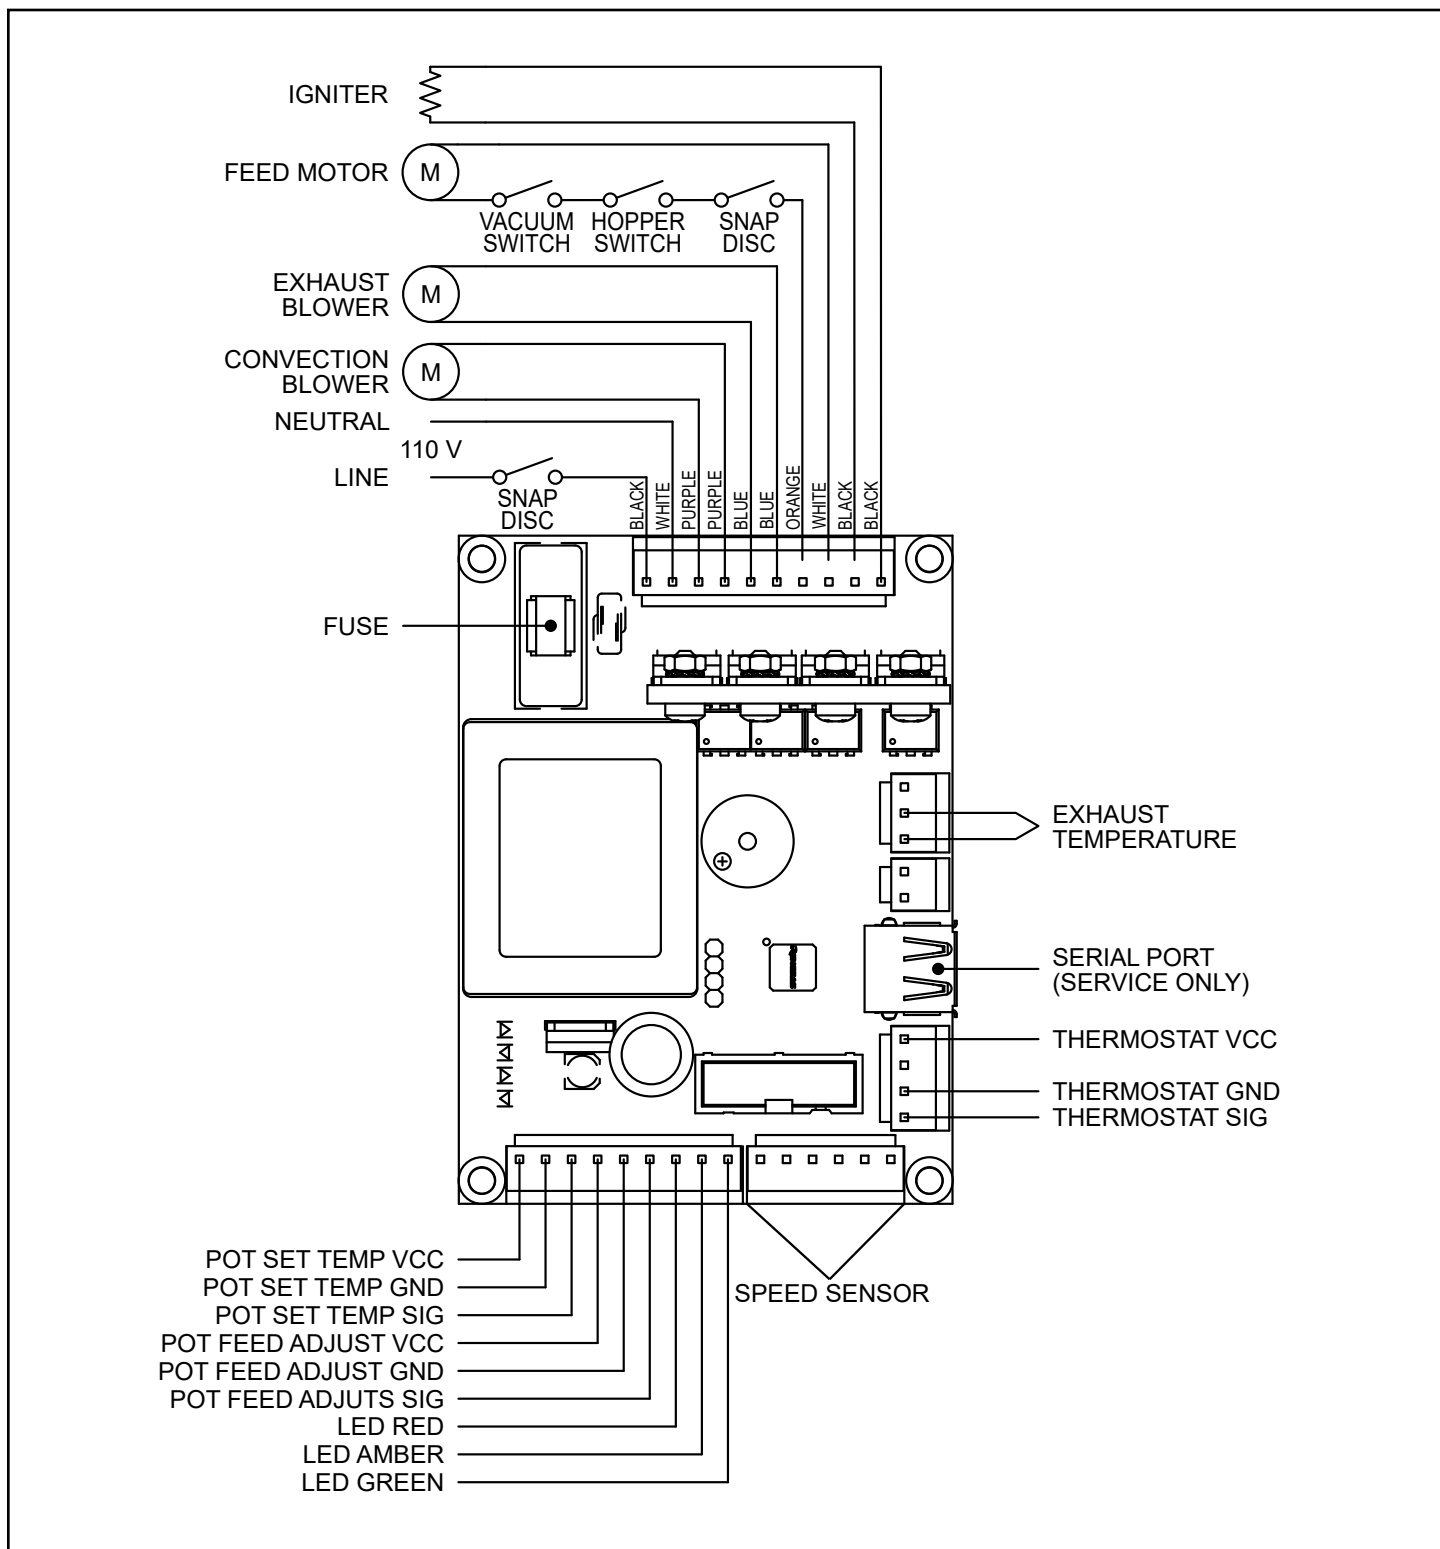

Figure 28.1 - Control Board Schematic
14. Wiring Schematic for Control Board (Figure 28.1)